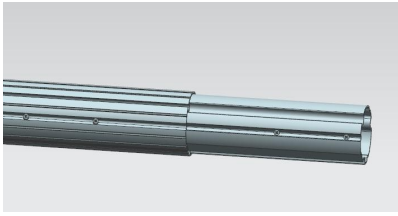
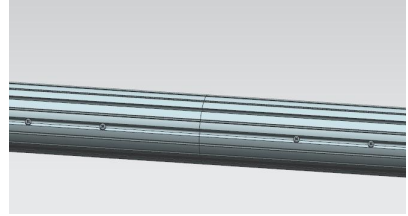

Figure C10
Figure C11
3.4 Pull out the connecting tubes at both ends of the middle winding tube to the red limit position, assemble the left and right winding tubes, and fix them with Screw A at the connection. (Figure C10, Figure C11)